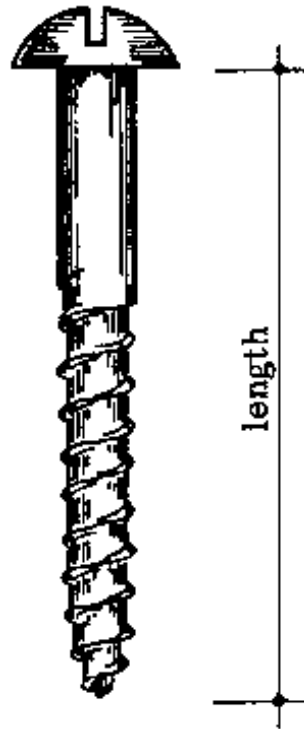

Fig. 2
- ROUND HEAD SCREWS: The head of these screws is round on top and flat underneath, and the length is measured from the underside of the head to the point (Fig. 2, page 210).